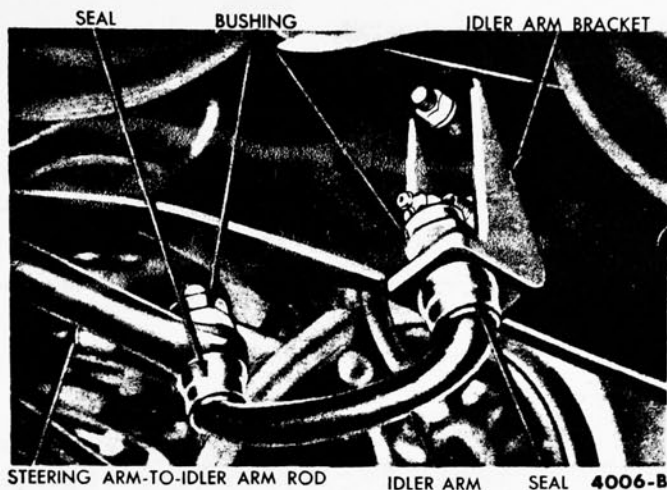

FIG. 14—Steering Idler Arm
1. Remove the cotter pin and nut which attach the spindle connecting rod ball stud to the steering arm to idler arm rod (Fig. 14). Tap the ball stud out of the rod. **Be careful not to loosen or bend any parts on the steering arm to idler arm rod.**
1. Remove the idler arm bracket (Fig. 14) from the underbody, and then remove the bracket and rear bushing from the idler arm.